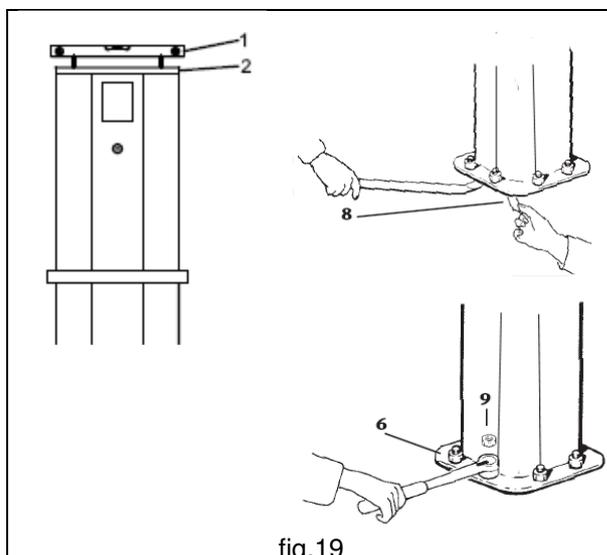

fig.19
5. Check the verticality of the axis of rotation using a levels for this operation **1** that should be resting on the mounting plate **2** of the column. The perfect plumb of the column is obtained by putting spacers under the column base plate **8** (fig. 19)
7. Then secure the nuts against unscrewing with the relative counternuts **9** (fig.19).